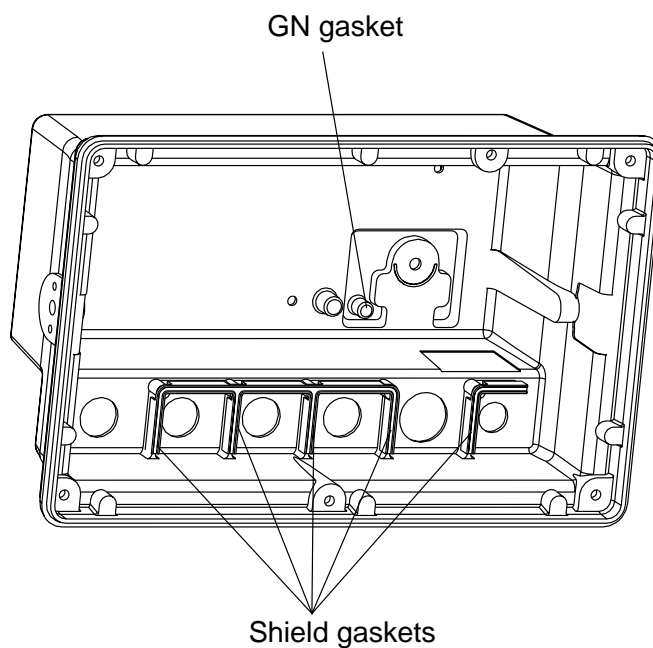

Figure 3-17 Inside of the cover
- Inside of the cover: Shield gaskets, GN gasket (See Figure 3-17.)